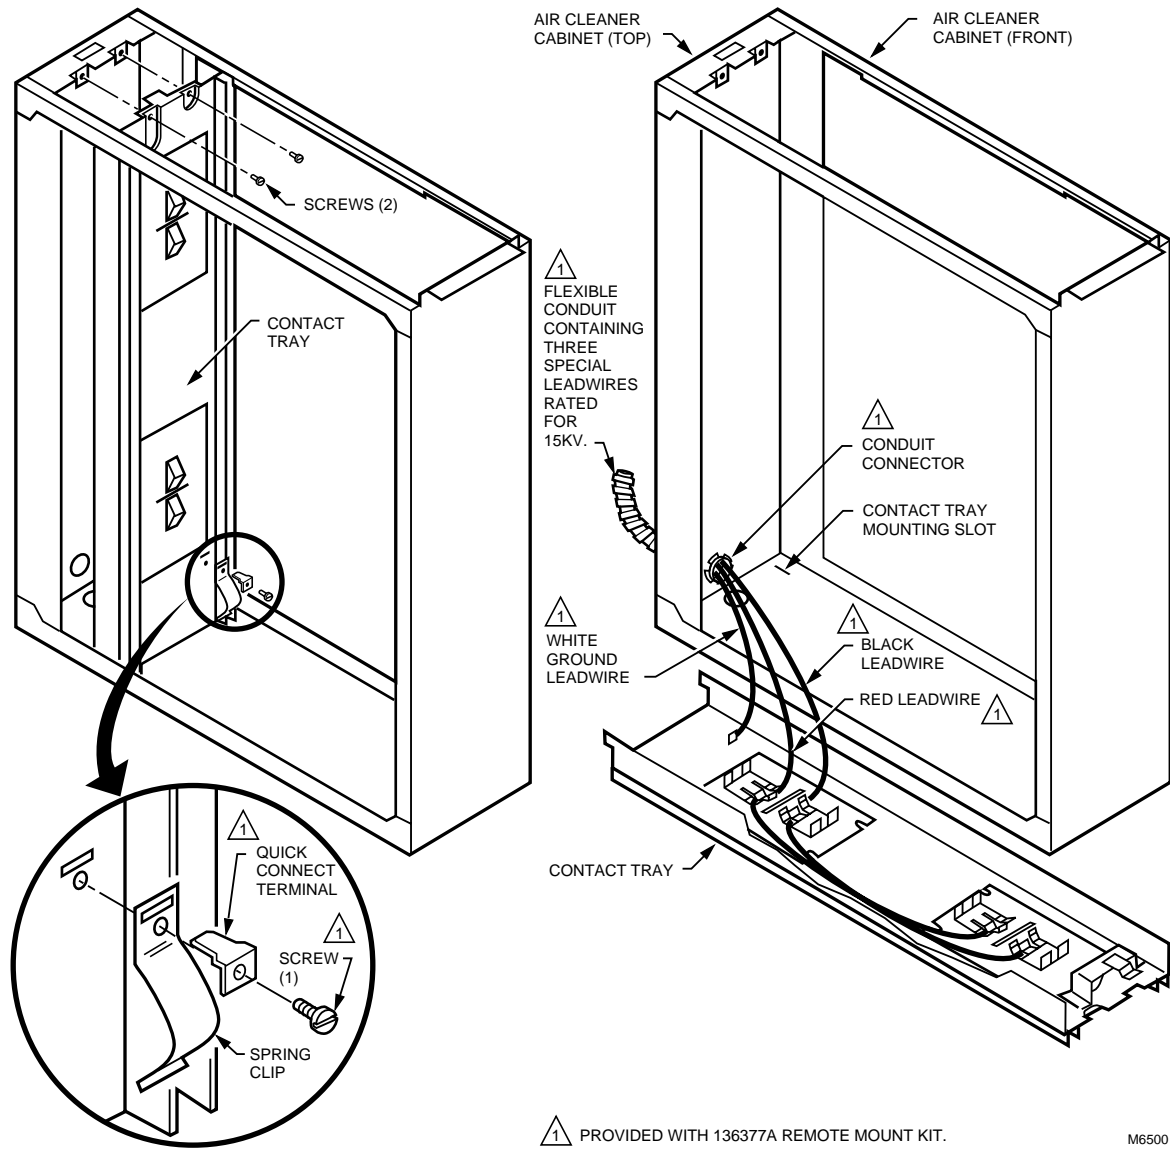

Fig. 18. Install the conduit on the cabinet and make wiring connections to contact tray.
- ❑ Connect the black wire to the collector terminal and the red wire to the ionizer terminal. See Fig. 18.
- ❑ Mount one of the quick-connect ground terminals and the leaf spring supplied in the kit on the contact tray and connect the white wire to it. See Fig. 18.